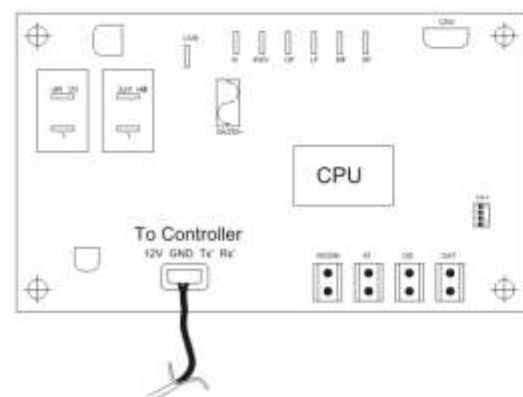

Figure 16 Main unit control board
c. Connect shield wire of wire controller to according terminals on the main unit control terminal, as shown in Figure 16.